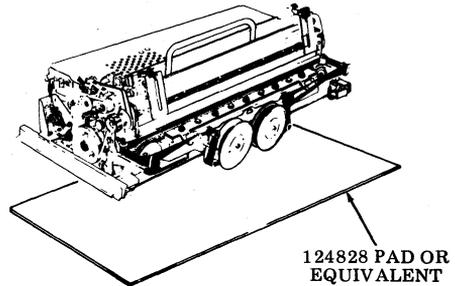

Fig. 10
- 2.05 Place printer on 124828 protective pad or equivalent (Fig. 10).